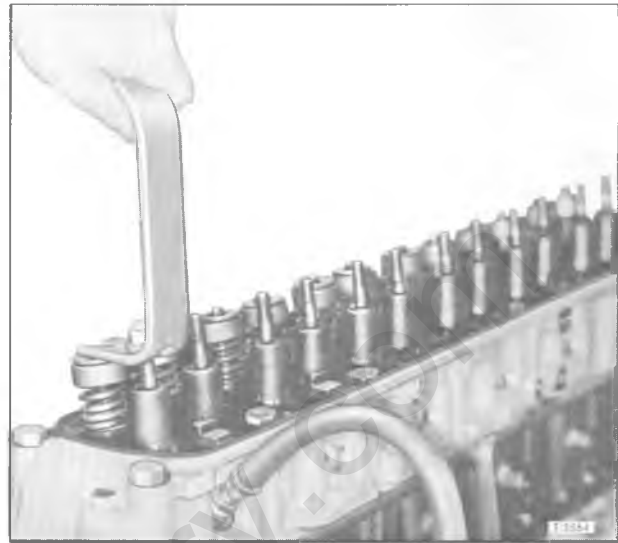

Figure 20—Using Special Tool and Compressed Air to Remove Valve Spring
4. Using Tool (J-5892) (fig. 20) to compress the valve spring, remove the valve locks, valve cap (or rotor), valve shield and valve spring and damper.